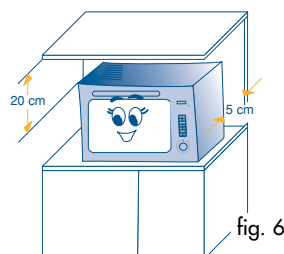

fig. 6
- 1) Remove the oven from the packaging. When moving the appliance, never use the door handle as a grip. Remove the protective wrapping from the turntable (H), support (I) and the accessories. Check that the turntable spindle (D) is correctly inserted in the corresponding groove in the centre of the turntable.
- 5) **When positioning the appliance on the worktop, make sure that there is a gap of approx. 5 cm between the surfaces of the appliance and the rear and side walls, and a gap of at least 20 cm above the oven (fig. 6).**